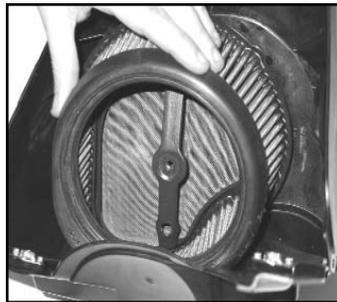

Fig. 2
4. Install the K&N Filtercharger® but do not install the XStream Top® at this time. (Fig. 2)